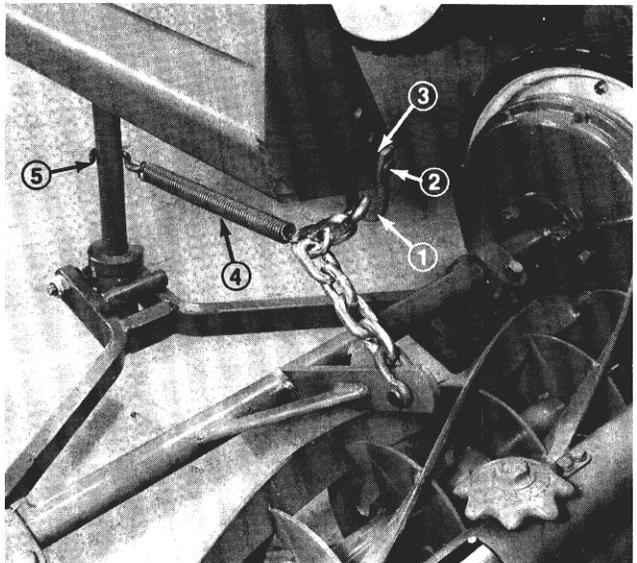

Figure 12
3. Secure lift chain to lift arm and mower mounting bracket with long shackles, clevis pins and cotter pins (Fig. 12). Secure to outer hole in lift arm bracket.
4. Hook spring to fifth link in chain from mower and secure other end of spring to lift bail with S-hook (Fig. 12).